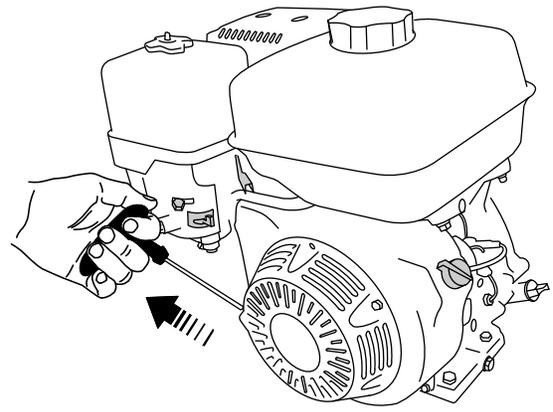

Figure 34
5. Pull the recoil-start handle lightly until you feel resistance, then pull the handle briskly. Return the recoil-start handle gently (Figure 34).